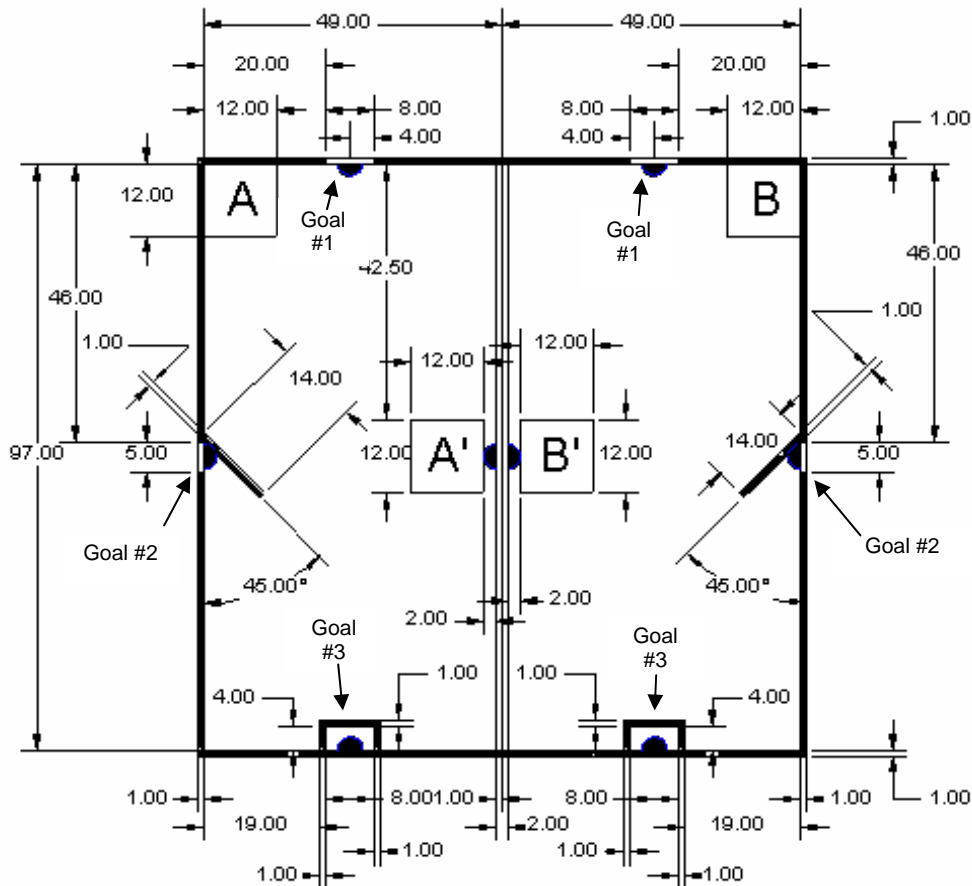

Fig. 1: Top View of Playing Field
- At the beginning of each game, 'bots will be placed in a random orientation in the zones labeled A and B in Fig. 1. The assignment of a 'bot's side of the playing field and orientation will be made by a member of the teaching staff.
- There are three goals on each side of the playing field. As shown in Fig. 1, Goal #1 is located along the top of the playing field. Goal #2 is located along the side of the playing field, and has a 5.5" tall blind blocking direct shots. Goal #3 is located along the bottom of the playing field, and is an 8"x4" (W x L) long region defined by a 3.5" tall border. Each goal incorporates an IR beacon to facilitate scoring points. The Goals are further described below.
- Each goal is a different size and shape (see Figure 1). The challenge of successfully placing a Happy Fun Ball in a particular goal corresponds to the point value of that goal.